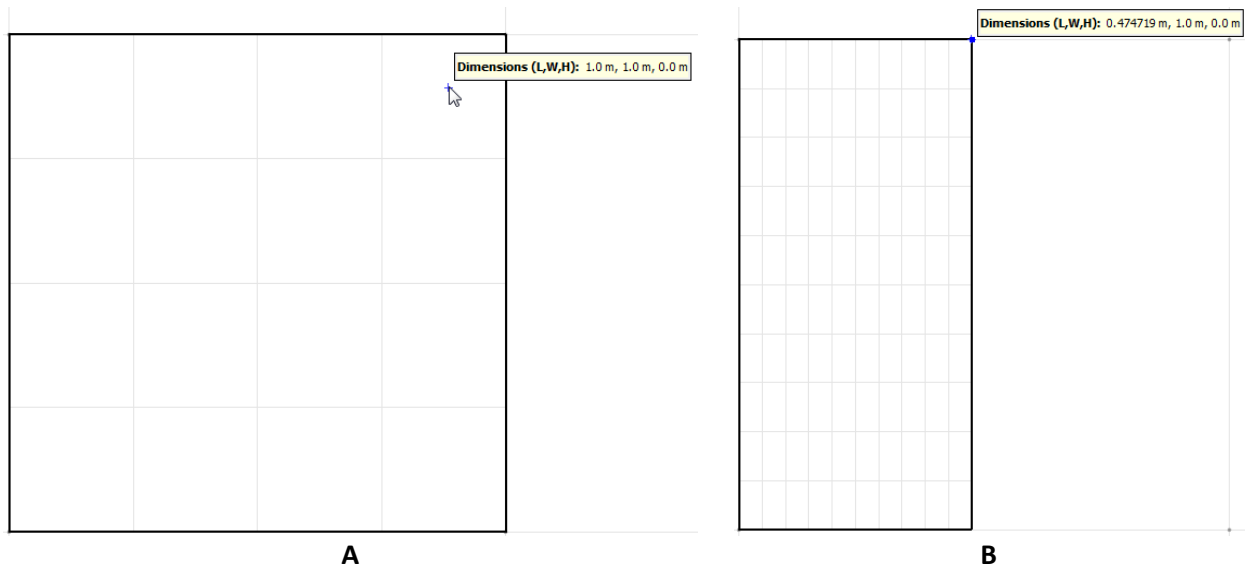

Figure 9:22. Two types of drawn meshes
- **Fixed Count:** each dimension of the drawn mesh will be evenly divided to have the specified number of cells. Figure 9:22 (B) shows a mesh drawn with fixed counts of $10 \times 10 \times 10$. As can be seen, the cells are stretched to match the drawn mesh boundary.